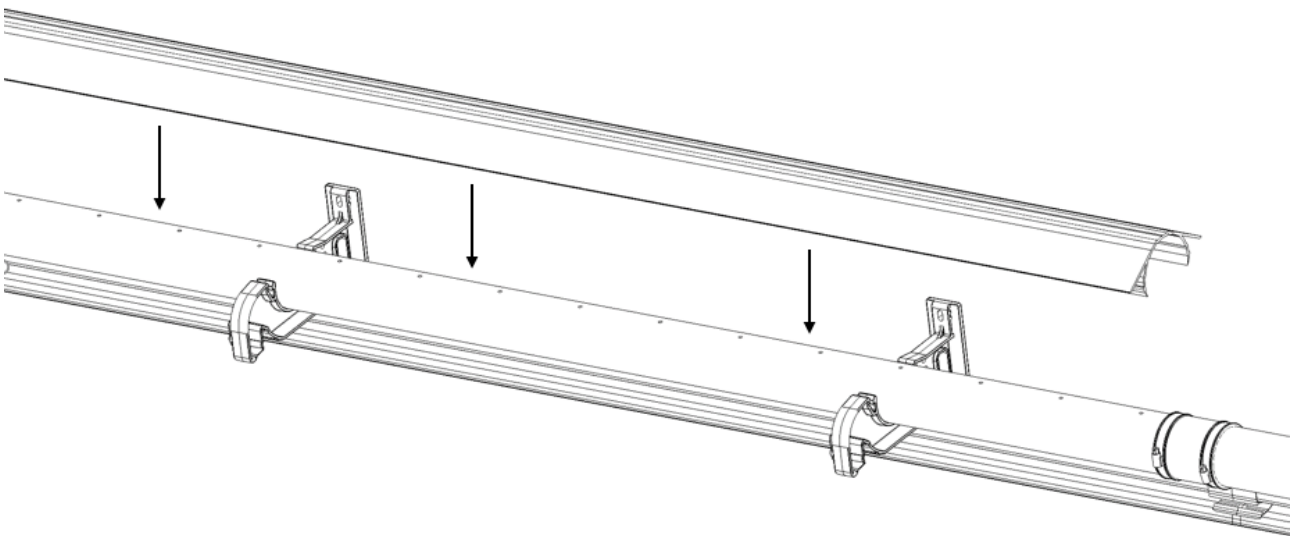

Figure 27
Insert the Deflector [ref. 14] and clip it in to the Top Brackets. See Figure 27.